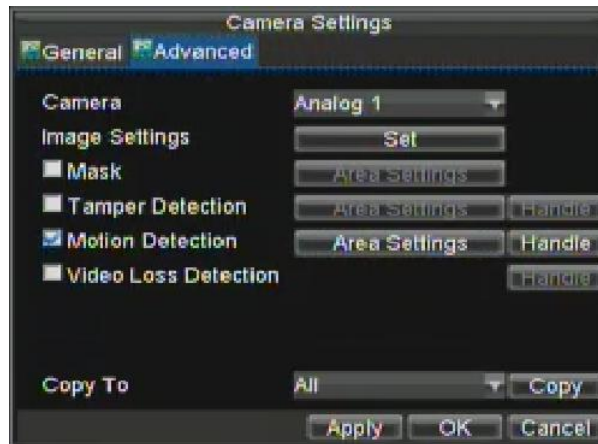

Figure 1. Advanced Camera Settings
2. Select the **Advanced** tab to open up the Advanced Camera Settings menu, shown in Figure 1.